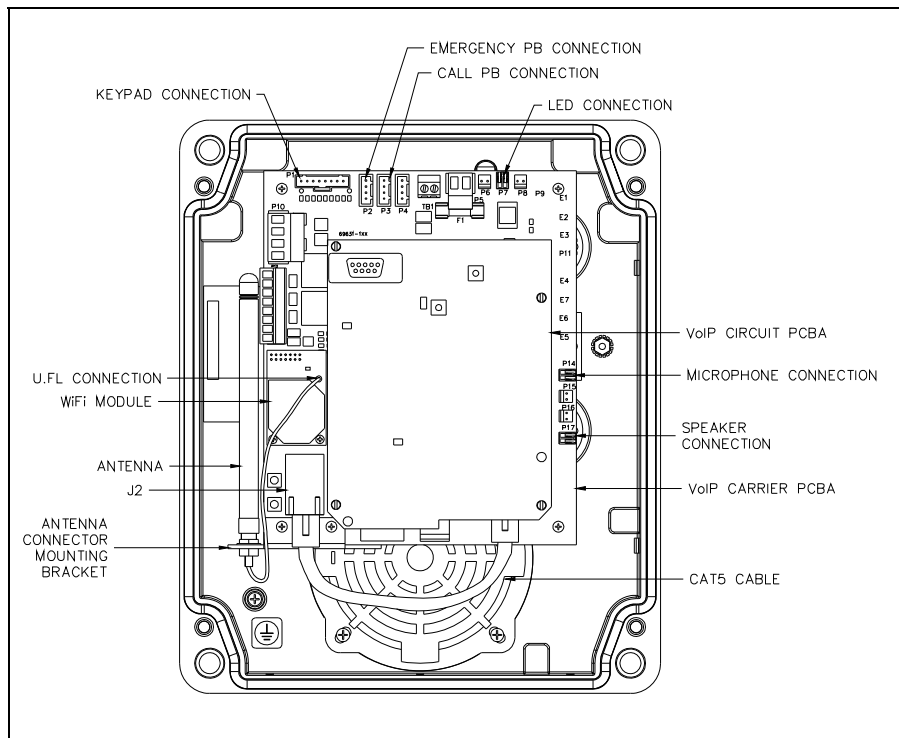

Figure 8. Model 393-800A
5. Unsnap the U.FL connection from the WiFi Module on the Carrier PCBA. Unplug the Cat5 cable from the J2 connector on the carrier PCBA. Remove the two screws securing the bracket with the RF cable assembly mounted to it from the Carrier PCBA, and set aside for later reassembly. **NOTE:** For Model 393-800A, the antenna is attached to this bracket/cable assembly. See Figure 8.